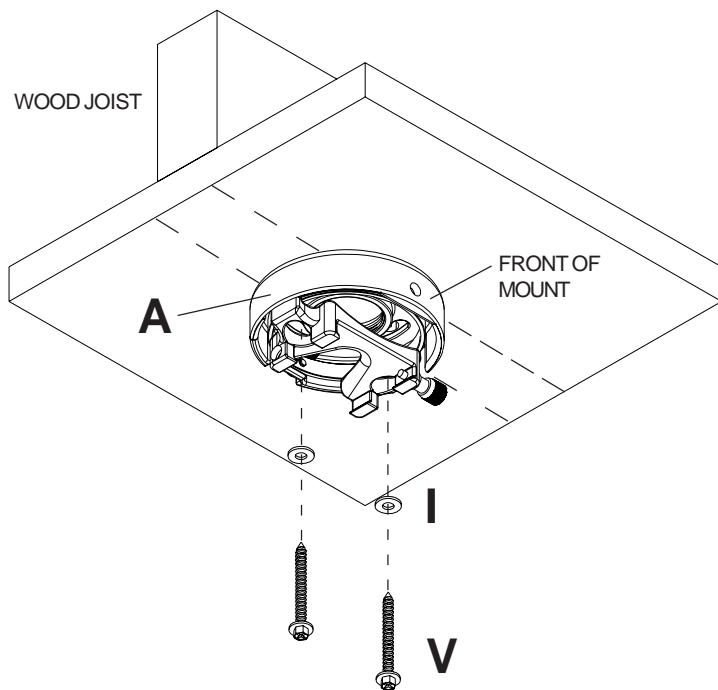
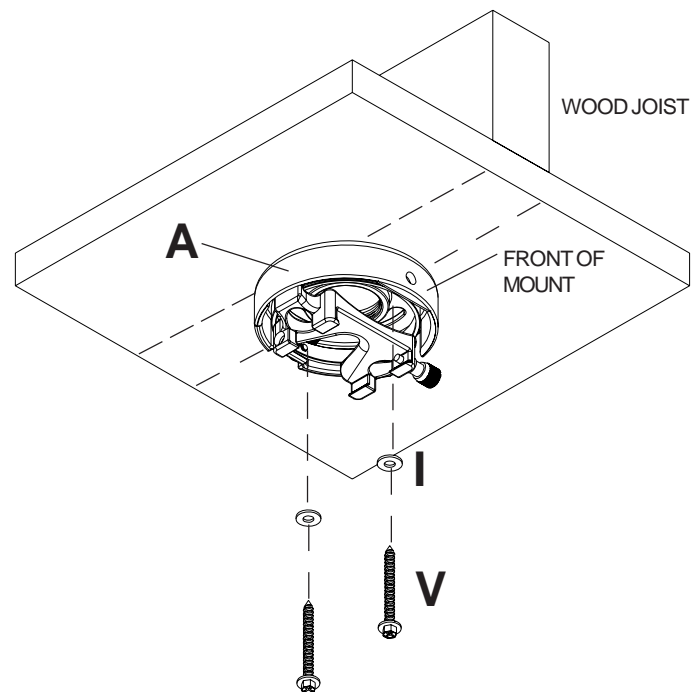

figure 1
figure 2
**3** Drill two 5/32" (4 mm) dia. holes to a minimum depth of 2.5" (64 mm). Attach projector mount assembly (A) with two #14 x 2.5" (6 mm x 65 mm) wood screws (V) and two flat washers (I) as shown in **figure 1** or **figure 2** depending on joist orientation. Tighten wood screws (V) using 3/8" (10 mm) socket wrench until projector mount assembly (A) is firmly attached.